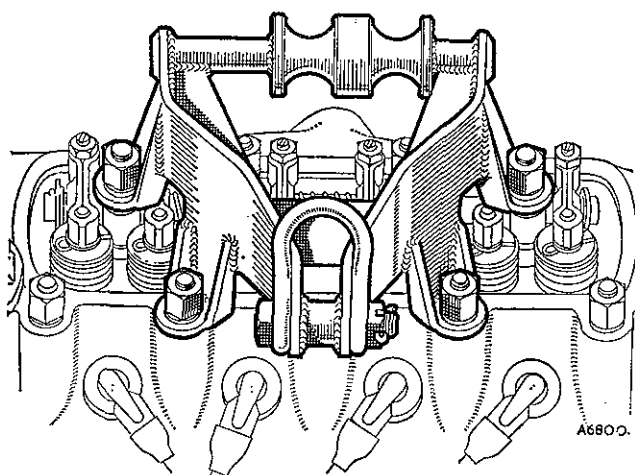

Fig. Aa.5
- (14) Disconnect the exhaust pipe from the manifold and secure the pipe against the bulkhead.
- (15) Disconnect the tie-rod from the cylinder block and swing the rod away from the engine.
- (16) Remove the rocker cover nuts and fit the engine lifting bracket (Fig. Aa.5).
- (17) Remove the set screws securing each engine mounting to the sub-frame.
- (18) Lift the engine sufficiently to release the drive shafts from the driving flanges, and remove the engine/transmission unit from the car.